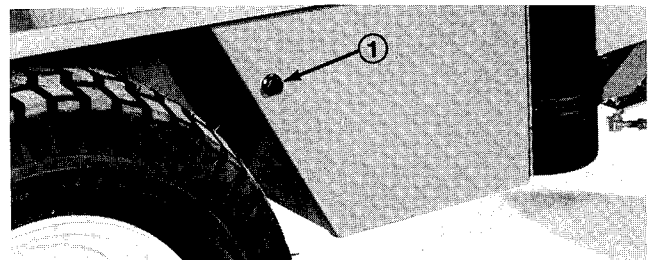

Figure 6
1. Loosen capscrow securing battery cover and open cover (Fig. 6).